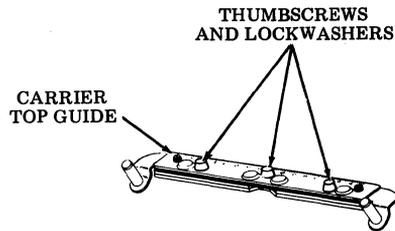

Fig. 14
- (c) On late design units (carrier top guide secured to backup bar with three thumb-screws), remove the carrier top guide (Fig. 14).
- (b) On 80-column tractor feed printer, remove three thumbscrews and lockwashers securing carrier top guide; remove guide (Fig. 14).